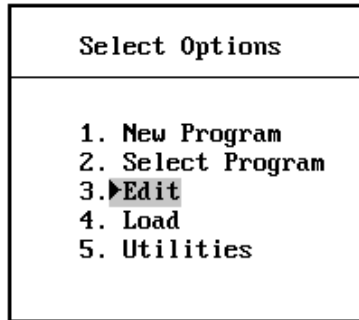

Figure 3-7, Activating the Editor
2. From **Menu E, Select Options** menu, highlight **Edit** and press **ENTER**. Refer to **Figure 3-7**.